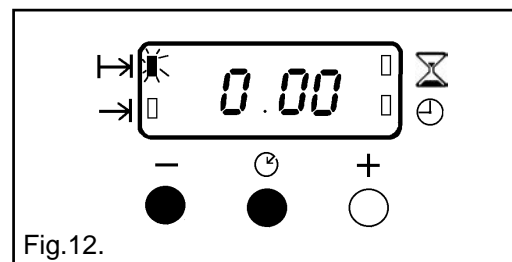

Fig.12.
- i) To cancel an automatic programme press the Selector Control button until the 'Cook Time' () indicator neon flashes. Press the decrease control (-) until the display reads 0.00 as Fig. 12.